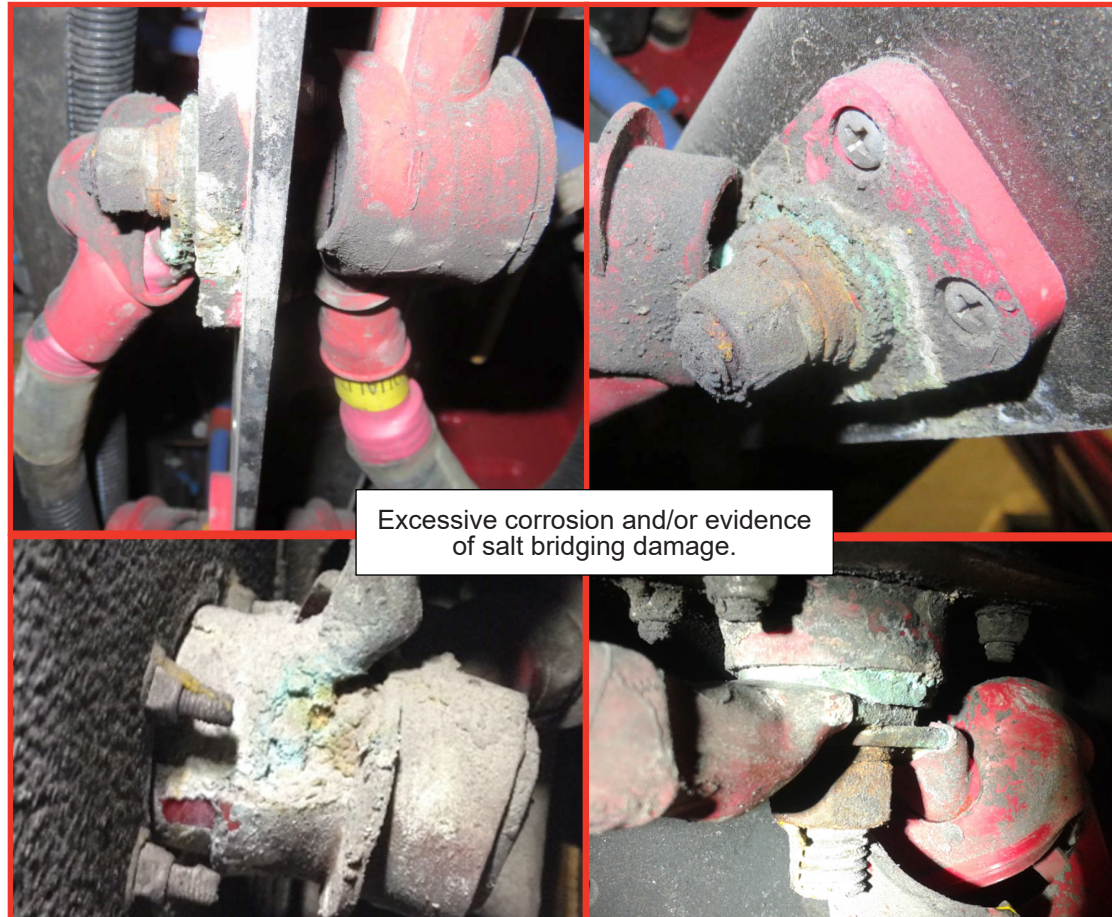

Figure 9 - Need of Maintenance for Junction Blocks with *DOLPH ER-41/EB-41/NOCO NCP-2* Corrosion Preventative Product
2. If the junction block is found with excessive corrosion and/or evidence of salt bridging damage, remove and discard the old junction block and the corresponding hardware and replace with a new junction block assembly (see Figure 9).